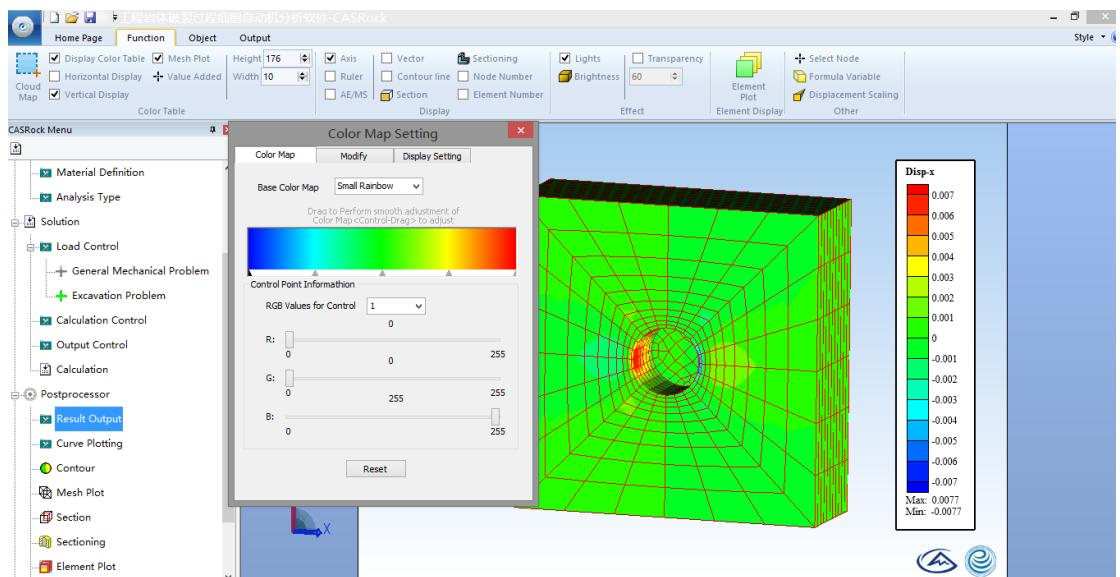

Figure 31 The System of Color Table
- 1) Color Map: adjust the color of the legend, as shown in Figure 31;